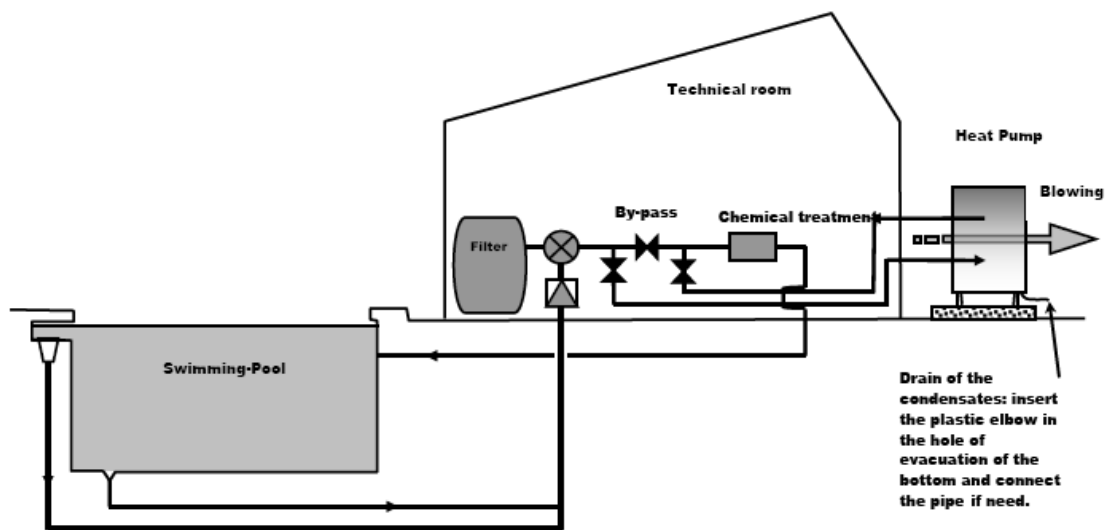

Figure 6: Typical hydraulic circuit part layout.
- Hydraulic circuit bypass valve, see Figure 6.
Minimum heat pump water input flow must not be under the value required for the model in question. See Paragraph 2. For system layouts such as that in Figure 6, water flow can be regulated using the bypass valve.